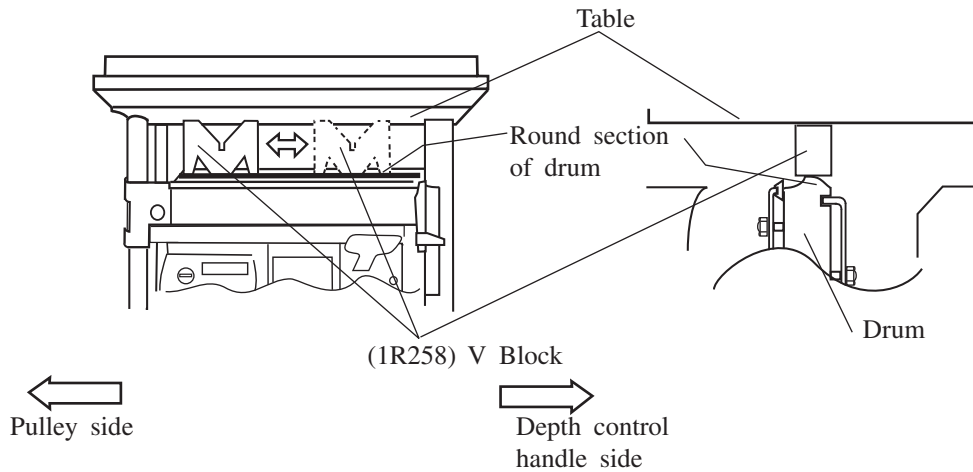

Fig.7
(See FIG.7)
- (3) Insert V block between table and round section of drum and check the distance of drum's round section and table on left and right side. (See FIG.7)